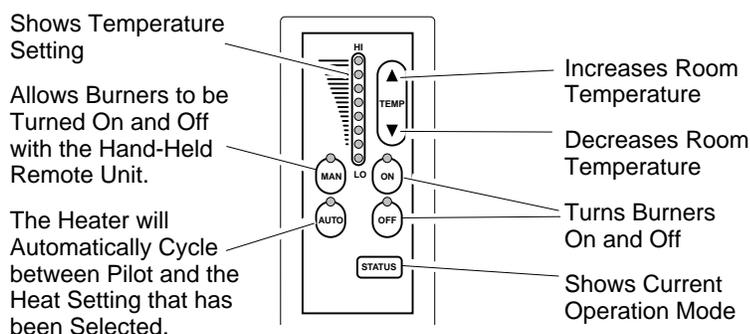

Figure 55 - Hand-Held Thermostat Remote Control Unit Selections (CGHRCT)
- 2b. Select the MAN (manual) or AUTO button on the hand-held remote control unit (see Figure 55).